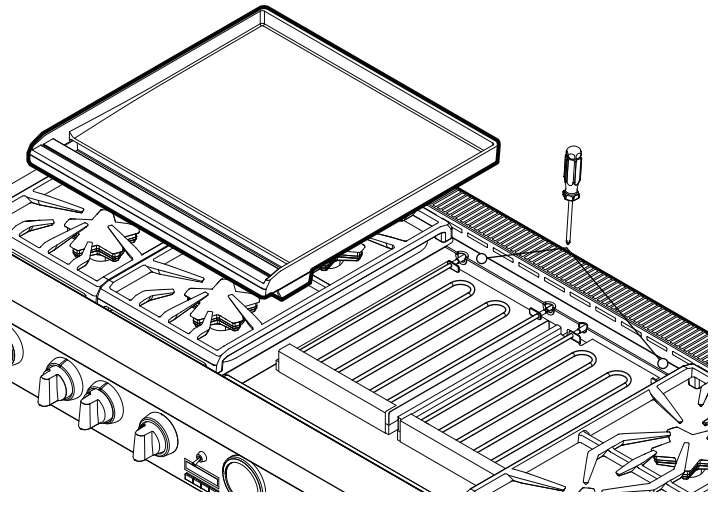

Figure 19: Griddle Plate Leveling Screws
4. Adjust the two screws under the back of the plate. Start with one half turn counterclockwise of the screws (Figure 19).